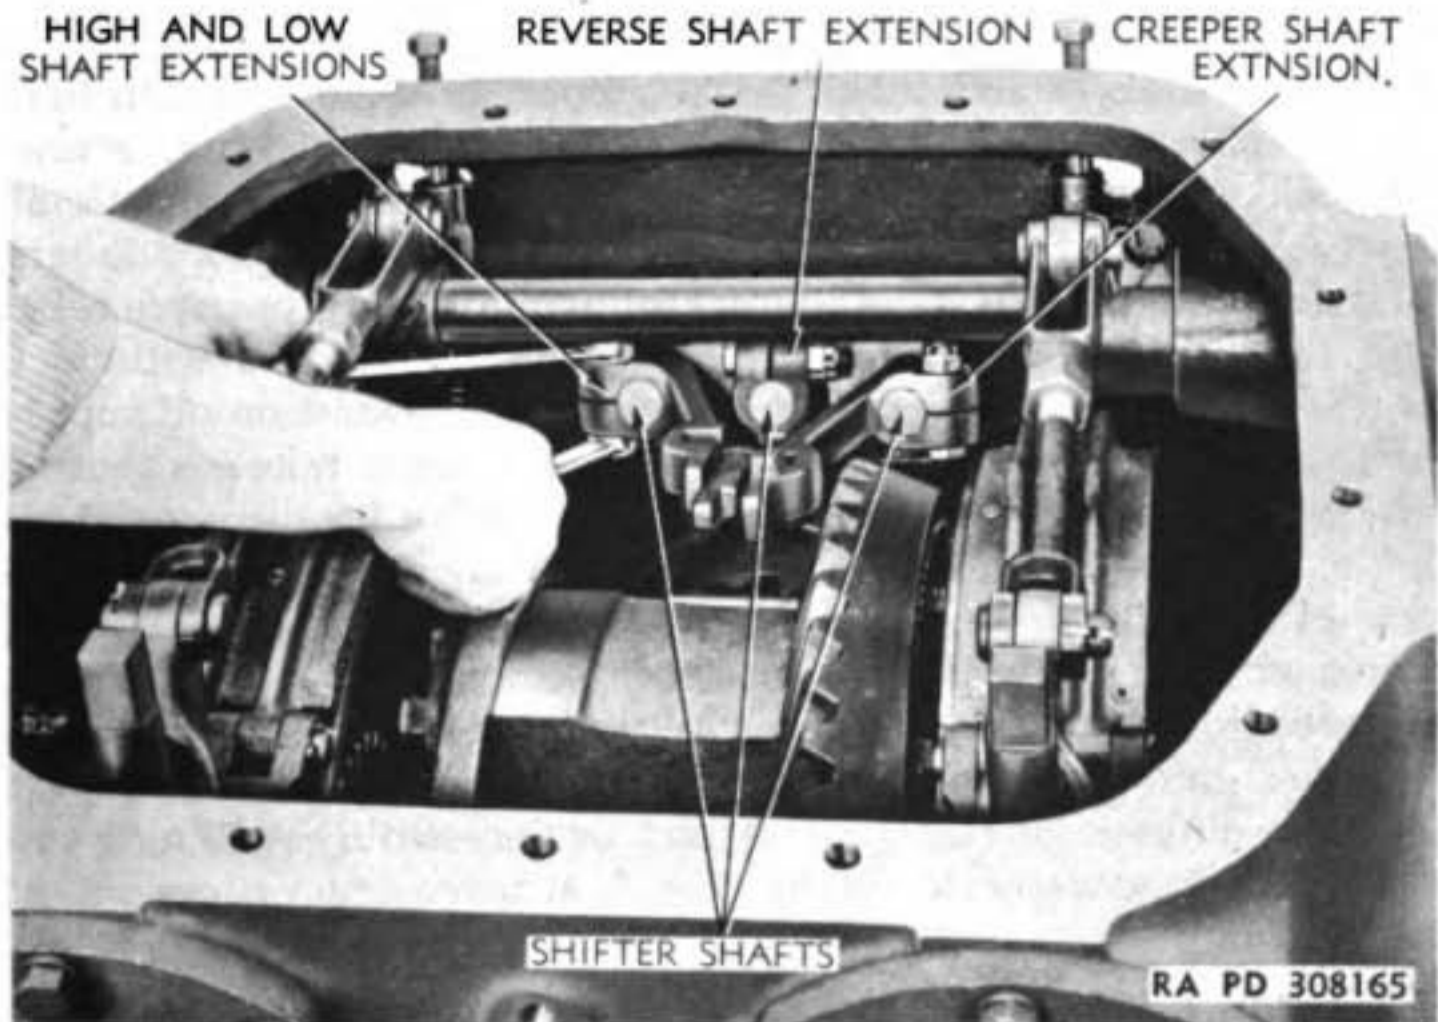

Figure 63 – Installation of Shifter Shaft Extension
e. Install Shifter Shafts and Forks. Insert smooth end of creeper gear shifter shaft (longest of the three) through hole in rear of case closest to power take-off side of case, place lower end of creeper gear shifter fork in collar of creeper pinion, and slide shaft through fork and partly into front end of case. Turn shaft so flat side of shaft is down. Slip two shaft plungers with a plunger spring between them into lateral passage in cases at side of creeper gear shifter shaft. Figure 46 shows arrangement of shifter shafts, forks, and plungers. Holding pressure against projecting plunger (fig. 63), slide shaft further until plunger is felt to engage lock notch in side of shaft. Next insert reverse shifter shaft which has notches in both sides and tap through center hole at rear of case. Place lower end of reverse gear shifter fork in collar of creeper gear with offset at top of fork toward rear of case and slide shaft through fork and into front end of case
d. Install Shifter Shaft Extensions. Install shifter shaft extensions on front ends of transmission shifter shafts as shown in figure 63. Position extensions so they are flush with ends of shaft, then tighten clamp bolts and install cotter pins in bolts. Adjust shifter shafts as explained in paragraph 20 f. With all gears in neutral position (fig. 12), the notches in extensions on reverse (center) and creeper (left) shifter shafts should now be even. Adjust creeper shaft exten-